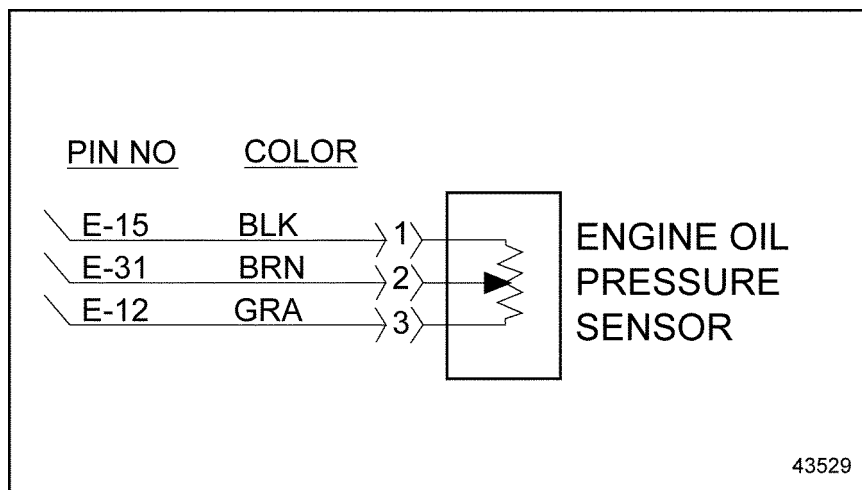

Figure 39-2 Engine Harness Connector to Engine Oil Pressure Sensor
2. Disconnect OPS connector and install a jumper wire between sockets 2 and 3 of the OPS/EOP Sensor connector. See Figure 39-2.